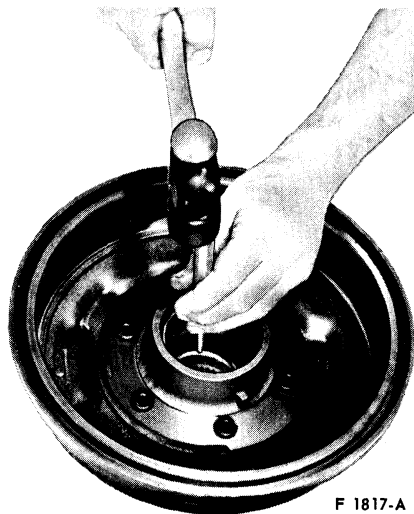

FIG. 27 Bearing Cup Removal
8. Inspect the bearing cups for pits or cracks. If necessary, remove them with a drift (Fig. 27). If new cups are installed, install new bearings.